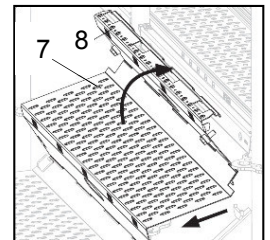

Fig.A2-7d
Lift the last step (7) slightly out of the holder. Horizontally position End Step UAE (8) on the last step (7). (Fig. A2.7d)